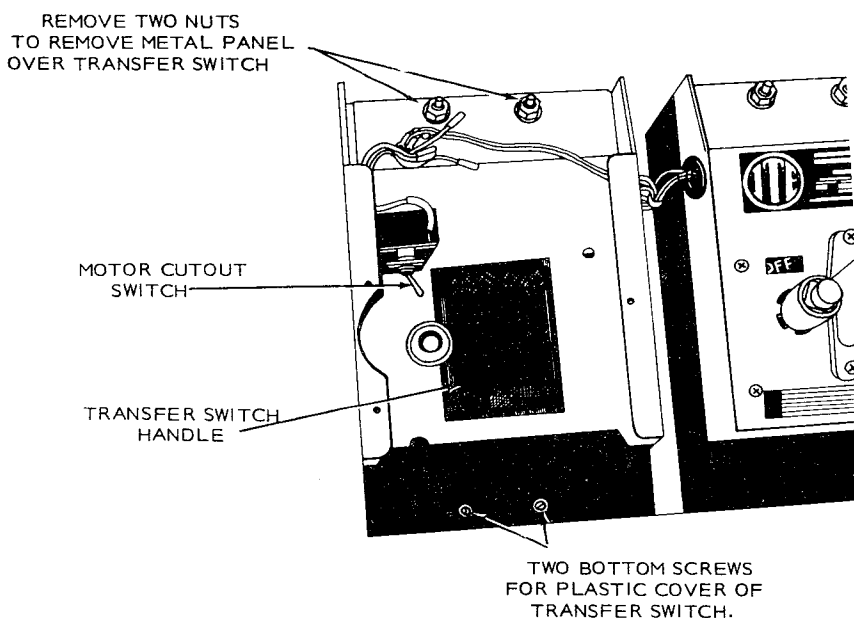

FIGURE 2-24. TRANSFER SWITCH WITH GEAR AND DRIVE ASSEMBLY REMOVED
16. Remove the two nuts with an 11/16-inch wrench and remove the motor assembly or sheet metal panel over the transfer switch (Figure 2-24).